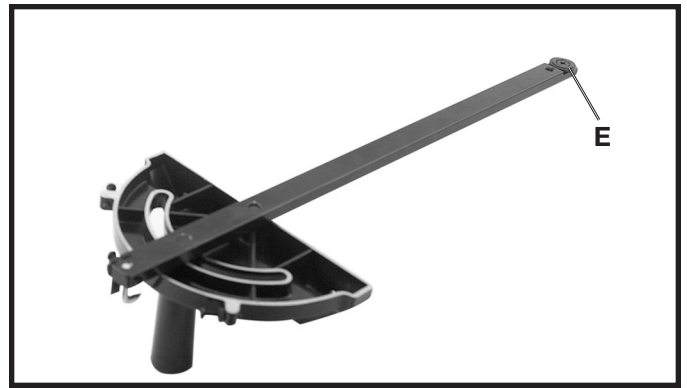

Fig. 47
4. Your miter gage is equipped with a plate (E) Fig. 47, which fits into the T-Slot groove in the table. This allows the miter gage to be pulled off the front edge of the table without falling.